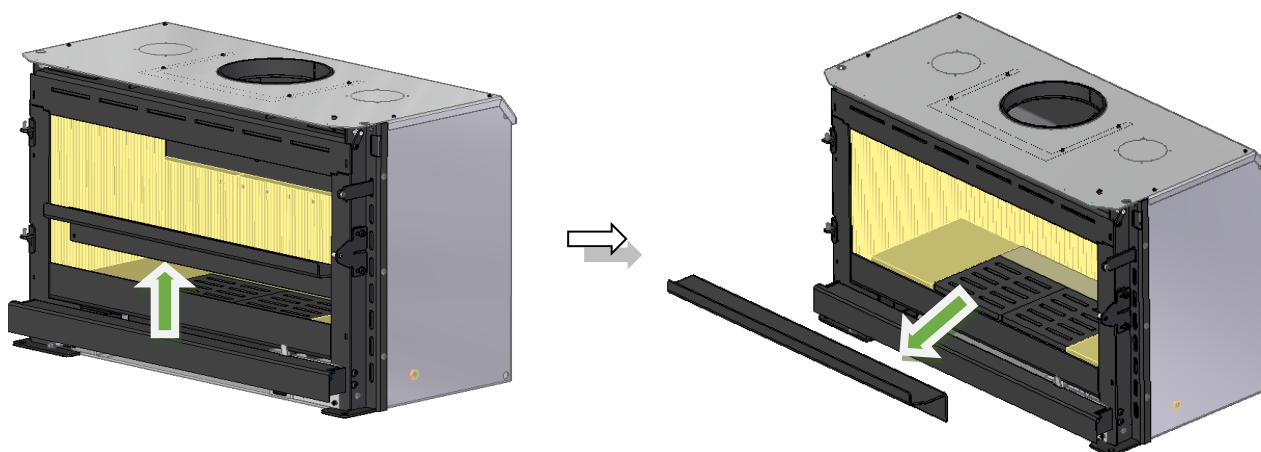

Figure 38 – Removing the ash deflector
1. Remove the ash deflector by shifting upwards, see Figure 38.